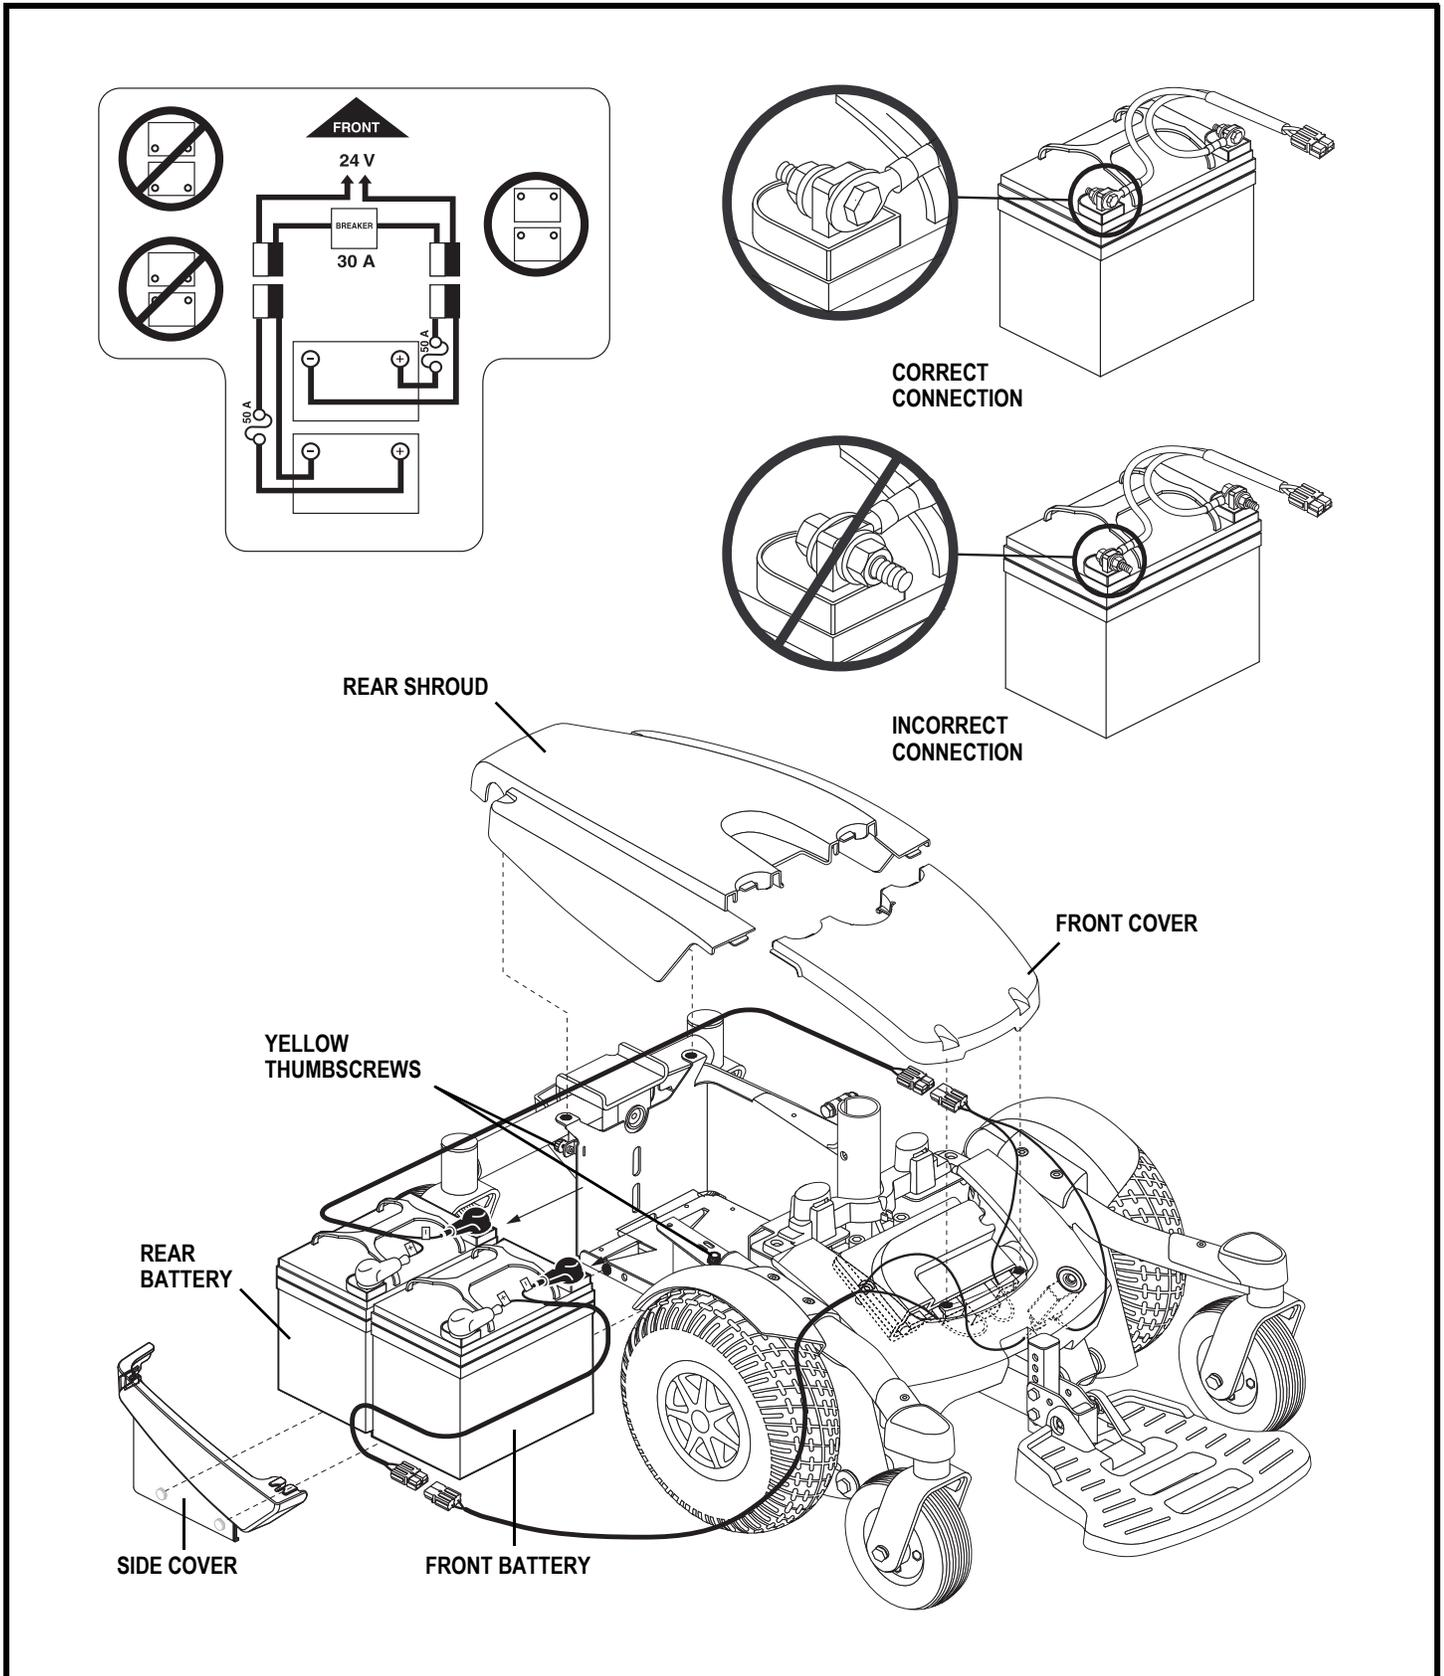

Figure 26. Battery Installation (Seat Removed for Clarity—Select 6 Shown)
3. Remove the rear shroud. See figure 26.
5. Disconnect the rear battery harness from the power base. See figure 26.
8. Disconnect the front battery harness from the power base. See figure 26.
10. Remove the battery harnesses from the old batteries and install them onto the new batteries. Make sure that the hardware is facing the correct direction. See figure 26.
11. Place the front battery into the power base. Make sure that the terminals are facing the front of the power base. See figure 26.
14. Place the rear battery onto the power base. Make sure that the terminals are facing the front of the power base. See figure 26.